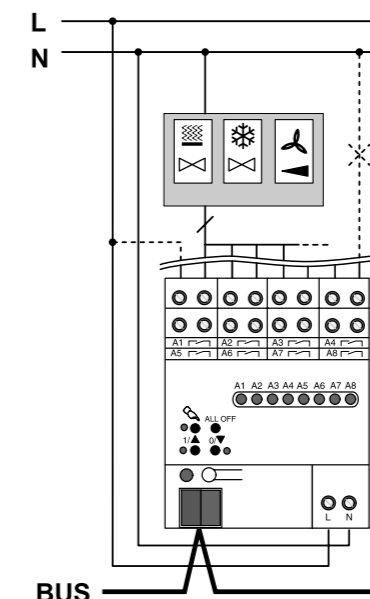

Fig. 3: connection of the load for 1 fan coil output
- i** One fan coil output with up to six fan stages: connection example in Fig. 3; output assignment information in table 2, Fig. 4 and Fig. 5.